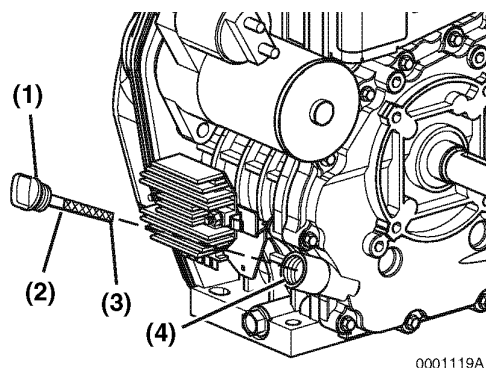
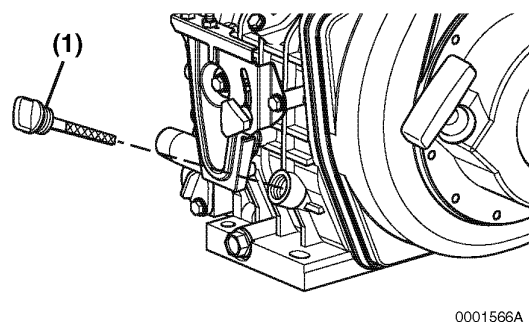

Figure 4-13
Figure 4-14
2. Remove oil cap / dipstick (**Figure 4-13, (1)**) and (**Figure 4-14, (1)**) from either location and wipe with clean cloth. *NOTICE: Prevent dirt and debris from contaminating the engine oil. Always clean the oil cap / dipstick and the surrounding areas before you remove the cap.*
4. Remove oil cap / dipstick. The oil level should be between upper (**Figure 4-13, (2)**) and lower (**Figure 4-14, (3)**) lines on the oil cap / dipstick. *NOTICE: ALWAYS keep the oil level between the upper and lower lines on the oil cap / dipstick.*
2. Remove oil cap / dipstick (**Figure 4-13, (1)**) or (**Figure 4-14, (1)**).
3. Add indicated amount of engine oil at either of the engine oil filler ports (**Figure 4-13, (4)**). *NOTICE: NEVER overfill. Overfilling may result in white exhaust smoke, engine overspeed or internal damage.*